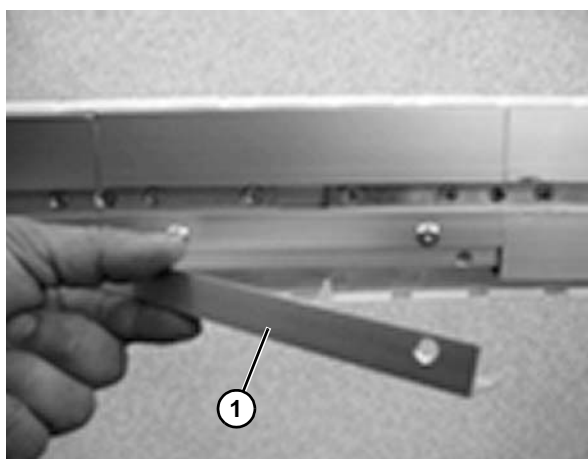

Figure 59
2. Remove the flange (**Figure 59, item 1**) so that the chain becomes accessible.